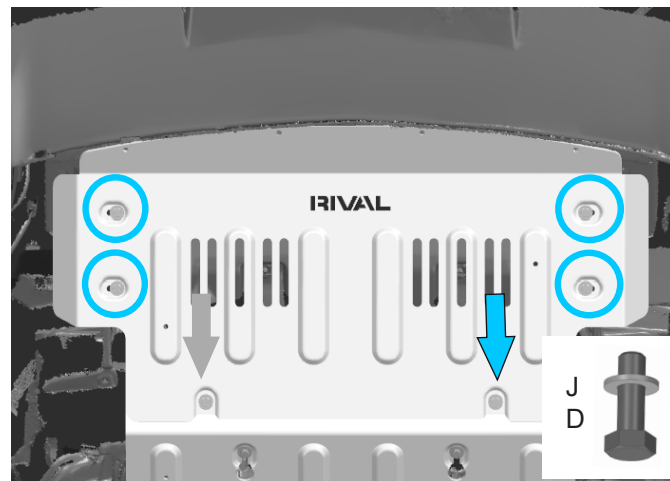

Fig. 10
10. Put the skid plate 1 (item 1) on pre-installed bolts (step 9), then fix it to the brackets (3,4), using bolts M8x25 and washers M8 (item D, J), as shown in fig.10.